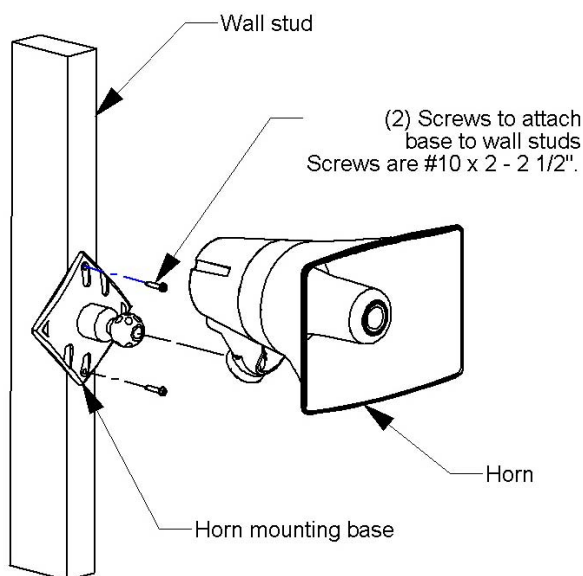

Figure 3. Mounting to a Wall Stud
- Mount the base to wall studs using the two holes provided. Knockout holes are provided for punch out should additional holes be desired. See Figure 3.